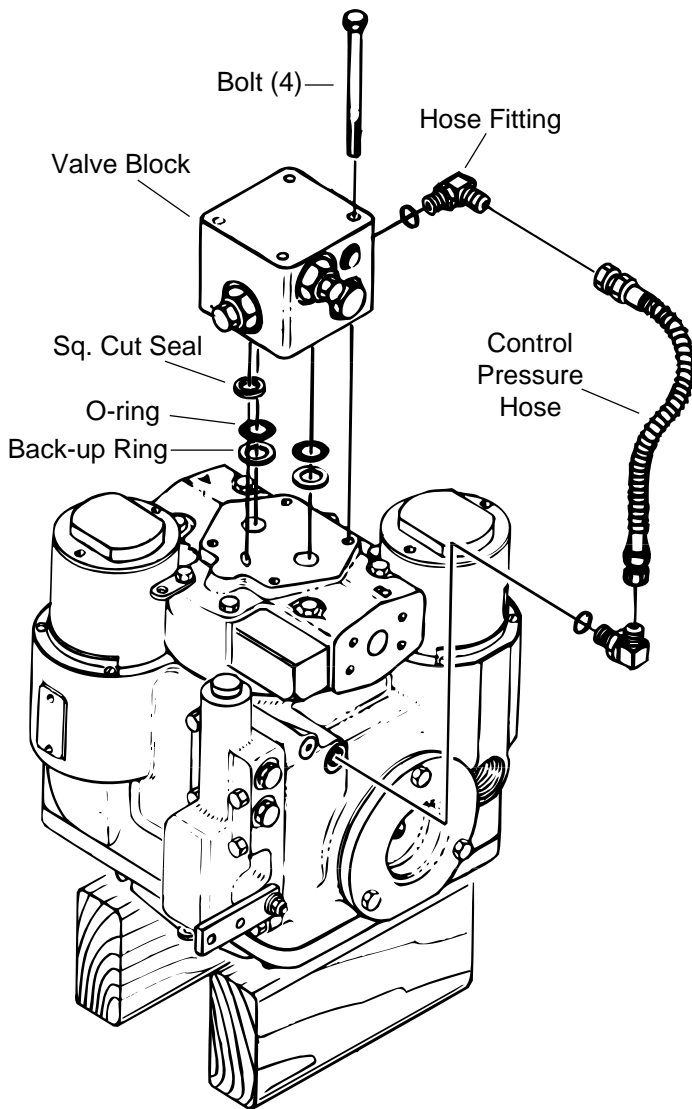

Figure 10
**11** Reposition the motor so the shaft is vertical and the valve block is on top. Stand the motor on two blocks of wood as shown in figure 10.
**16** Remove the two o-rings and back-up rings, and the square cut seal from between the valve block and motor, see figure 10.